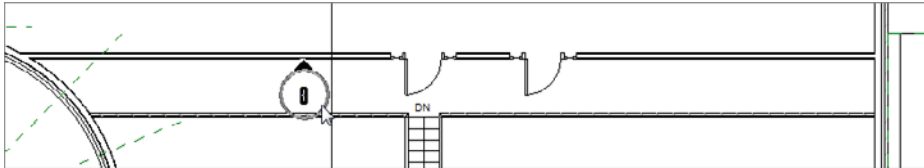

FIGURE 10.77 Pick the point as shown for the elevation.
4. Place the door in the corridor wall aligned with the stairs, as shown in Figure 10.77.
5. Copy the door 10'-0" (3000mm) to the right, as shown in Figure 10.77.
8. Pick a point, as shown in Figure 10.77; then press Esc.